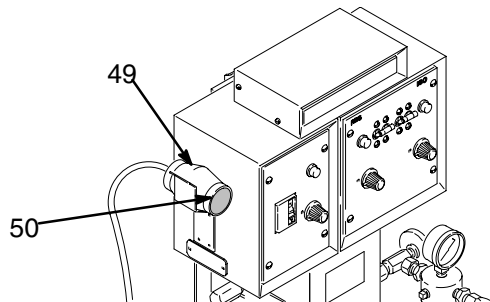

Fig. 13
1. Remove the **ATC Sensor (49)** from the clamp (50).
2. Locate the sensor *outside* in air that is typical of the surface to be sprayed. The sensor has a 15 ft. (4.6 m) cable. See Fig. 13.